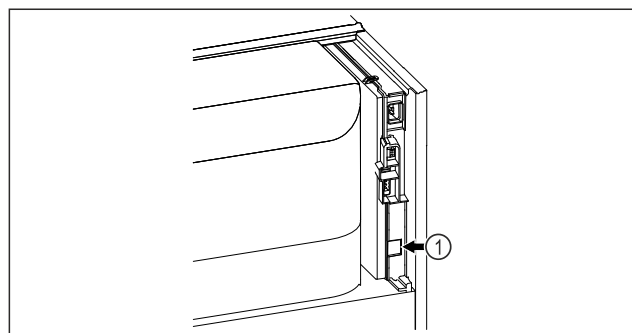

Fig. 79
- SmartModule Fig. 79 (1) is in use.